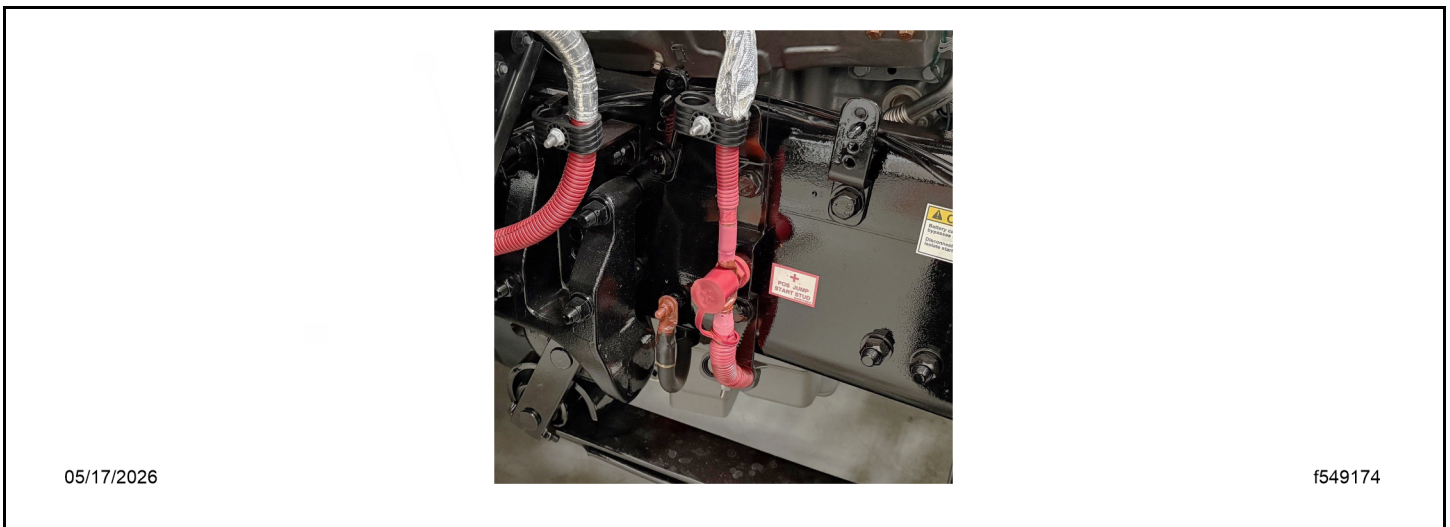

Fig 73, Isolated Battery Junction with Jump-Start Post
5. Locate the isolated positive (+) battery stud mounted on the frame behind the front wheel. See Fig. Fig. 73.